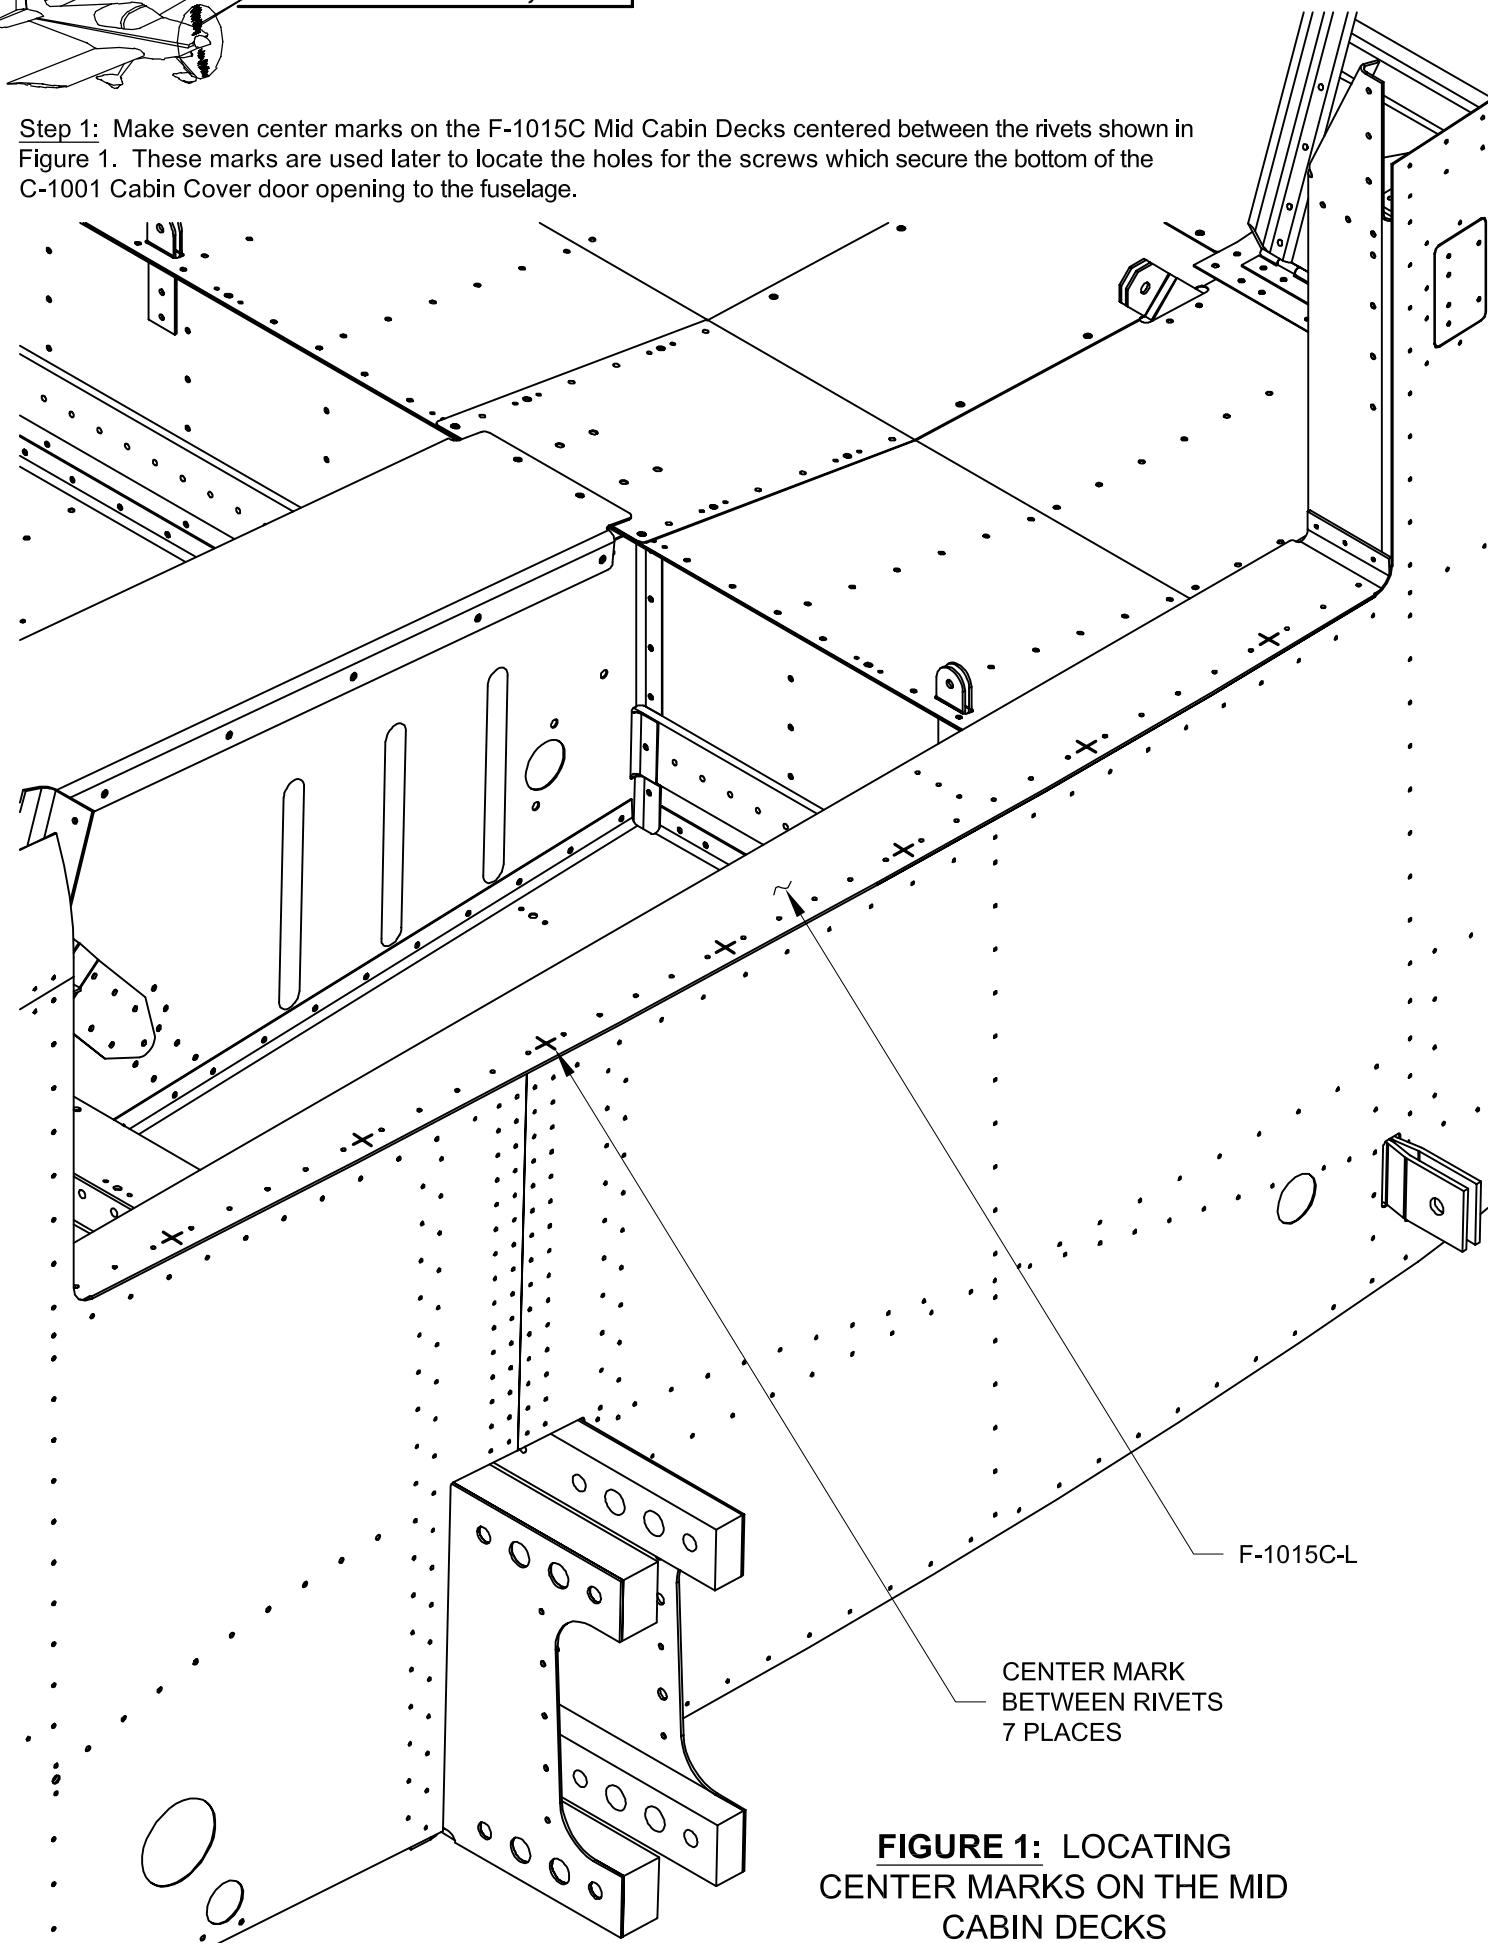

FIGURE 1: LOCATING
Step 1: Make seven center marks on the F-1015C Mid Cabin Decks centered between the rivets shown in Figure 1. These marks are used later to locate the holes for the screws which secure the bottom of the C-1001 Cabin Cover door opening to the fuselage.